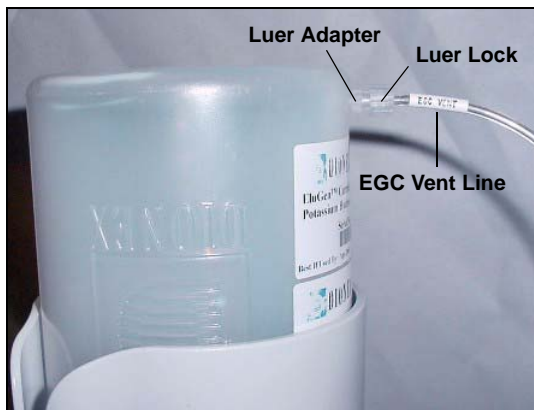

Figure B-60. Installing the EluGen Cartridge Vent Line
5. Twist the luer lock and EluGen cartridge vent line into the luer adapter (see Figure B-60).